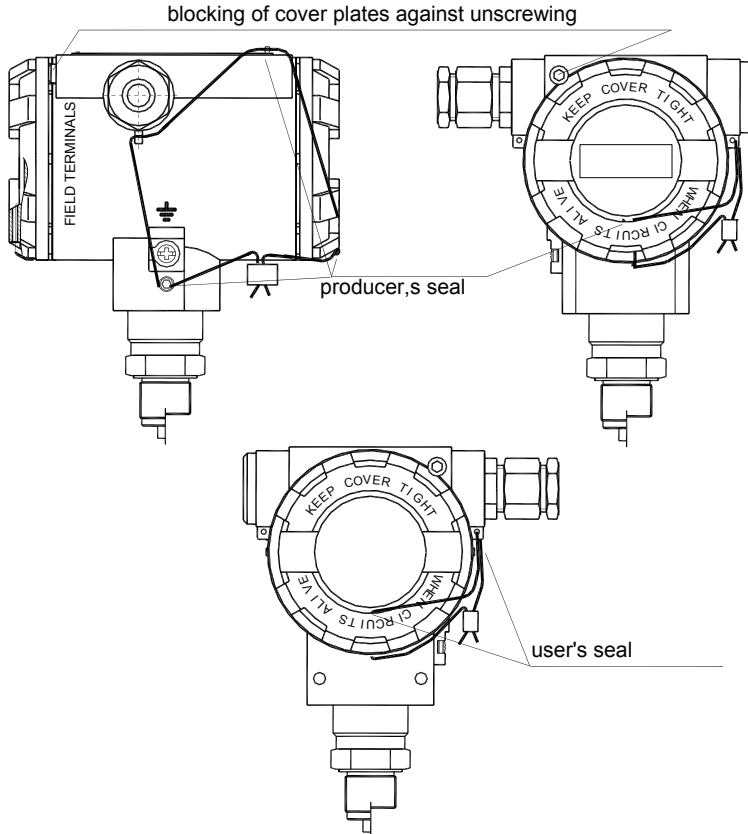

Fig 1c. APC-2000ALW in MID application. Sealed up transmitter.
8.2. Blocking by the gas volume conversion manufacturer. Turn on the "spec MID locking" with local buttons using local menu of transmitter (p.10.2.5.2 DTR.APC.APR.ALW.03(ENG), MID_WP – "ON"). Put the seals of the gas volume conversion producer on the cover, screw of a sensor head and a label if it is metal made. Places of seals application is shown by the arrows at Fig. 1c. Seal should be made in accordance with the documentation of gas volume conversions in the place/country their use.